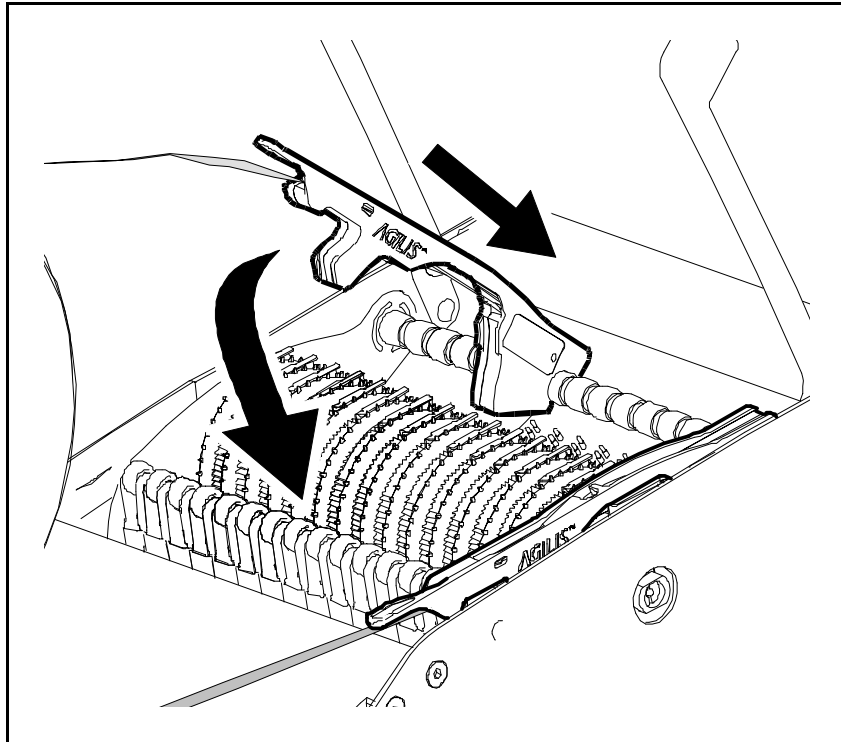

Figure 5-18. Inserting a feeder into the magazine.
5. Insert the feeder in the magazine (see Figure 5-18) in one of the following ways.